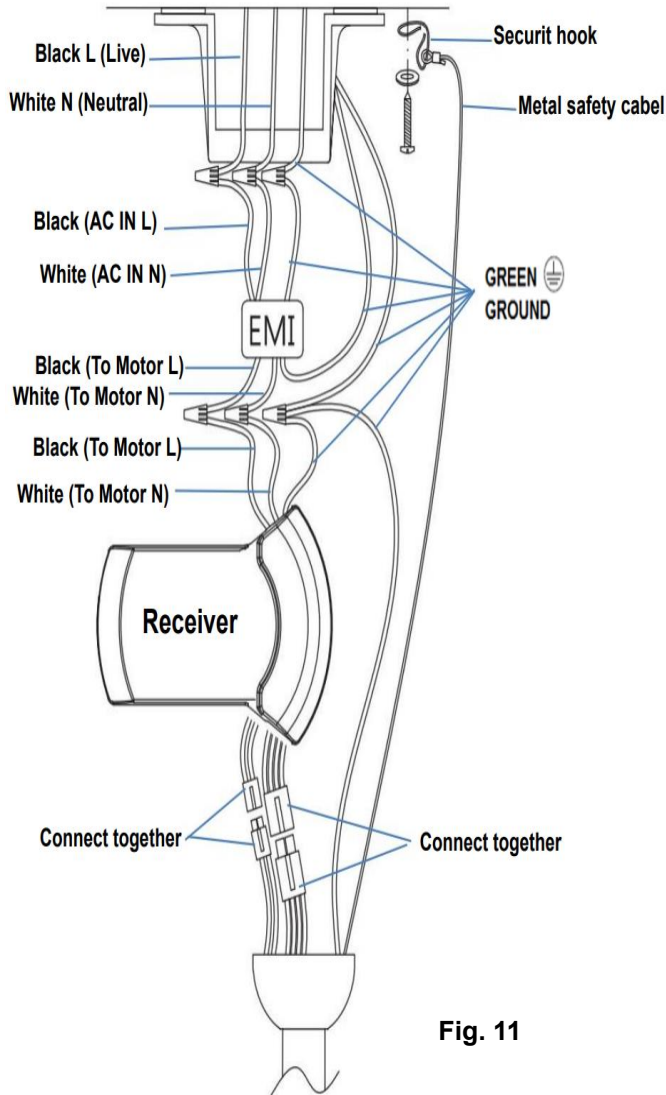

Fig. 11
- Complete the electrical wiring according to the 'ELECTRICAL WIRING DIAGRAM' section below. (Fig.11)
2. Connect the household live supply wire (black) to EMI filter input wire (black, AC IN L) as shown in **(Fig.11)**